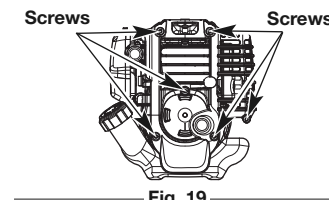

Fig. 19
1. Remove the 6 screws from the engine cover with a flat-head screwdriver or T-25 Torx screwdriver (Fig. 19). Remove the engine cover.
2. Remove the 6 screws from the engine cover with a flat-head screwdriver or T-25 Torx screwdriver (Fig. 19). Remove the engine cover.